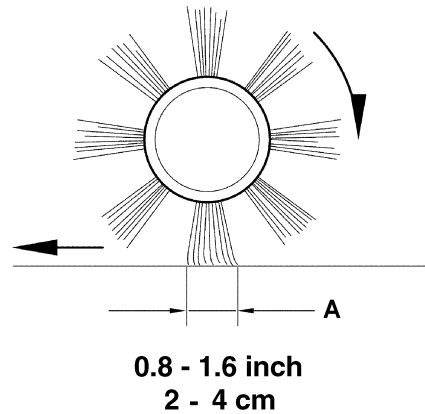

Figure 2
- Check that the main broom print (A, Fig. 2), along its length, is 0.8 to 1.6 in (2 to 4 cm) wide.